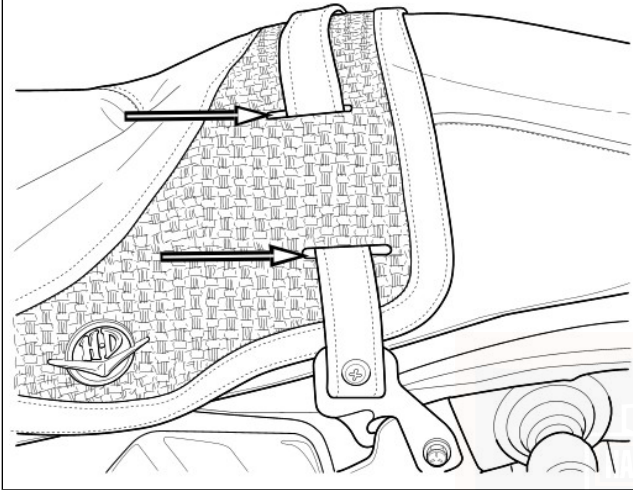

Figure 105. Strap Slots: FLHRC
4. **FLHRC:** See Figure 105. Pull strap through slots in seat to remove.
4. **FLHRC:** See Figure 105. Install strap through slots in seat.